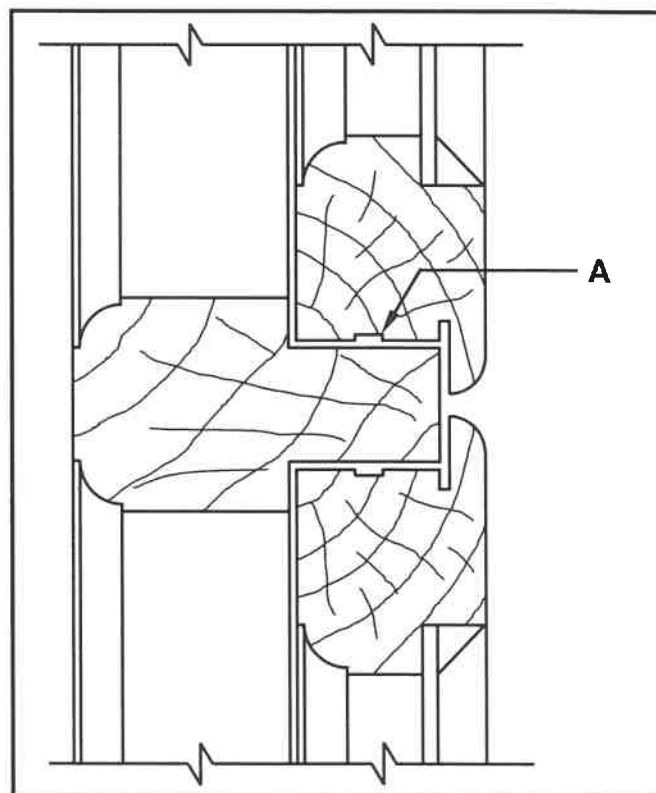

FIGURE 3.2
- 3.2 FIGURE 3.2 below shows a vertical section through a certain part of a double casement window with a fanlight. Study the picture and answer the questions that follow.